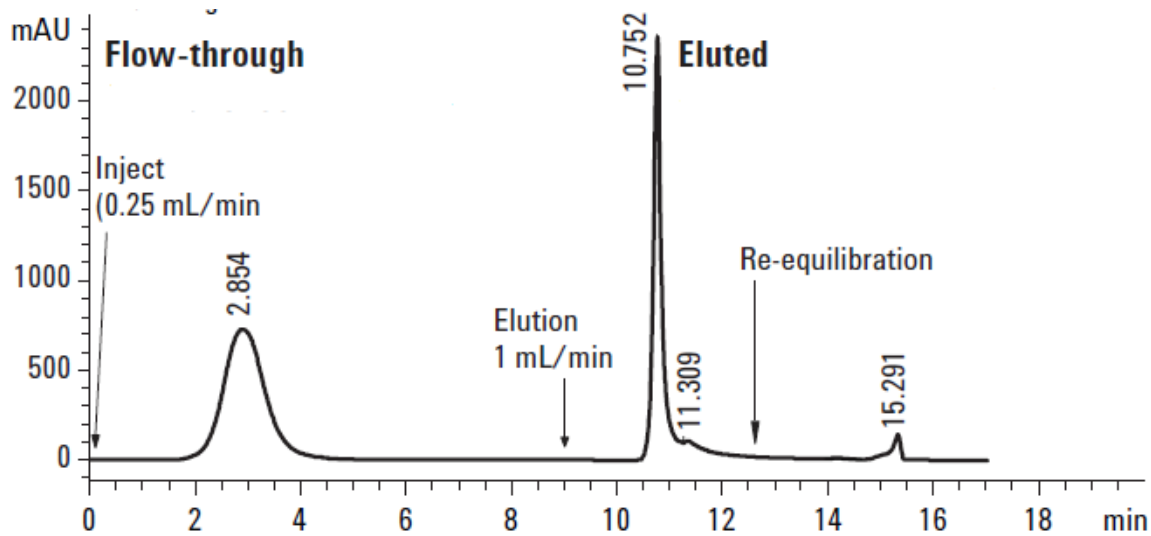

Figure 2 Representative chromatogram for 4.6 × 50 mm column.
- 2 Collect the flow-through fraction (like that which appears from 1.5 to 4.5 min in the typical chromatogram shown in Figure 2 on page 13). Store collected fractions at -20 °C if not analyzed immediately.